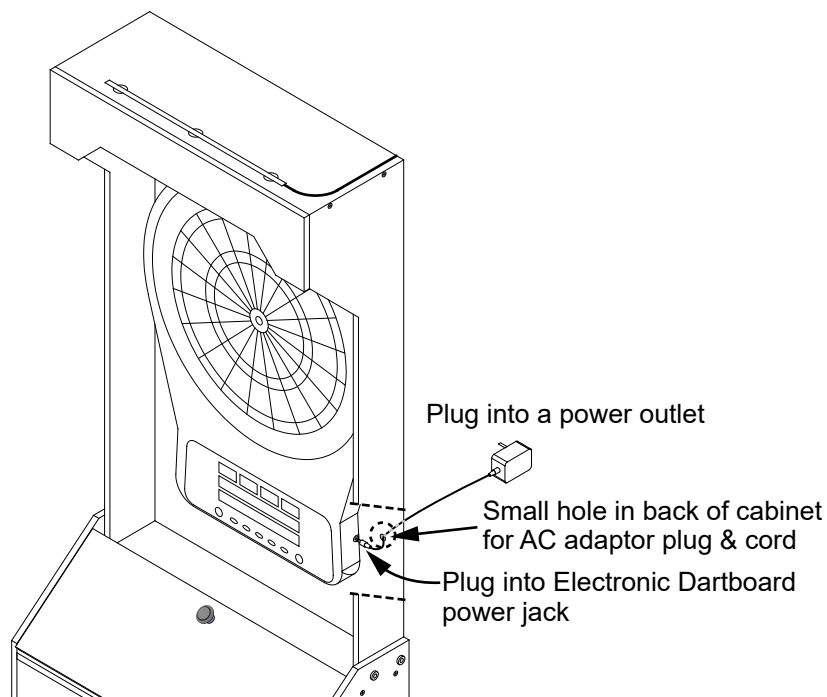

Figure 17
34. Connect the AC Adaptor jack to Electronic Dartboard by going through the small hole on the right bottom (view from front) of the upper cabinet. See **Figure 17**.